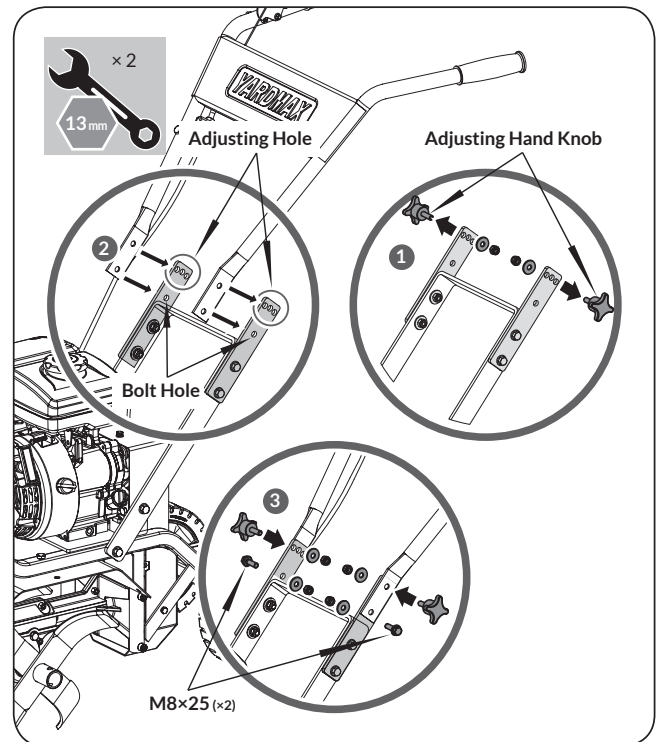
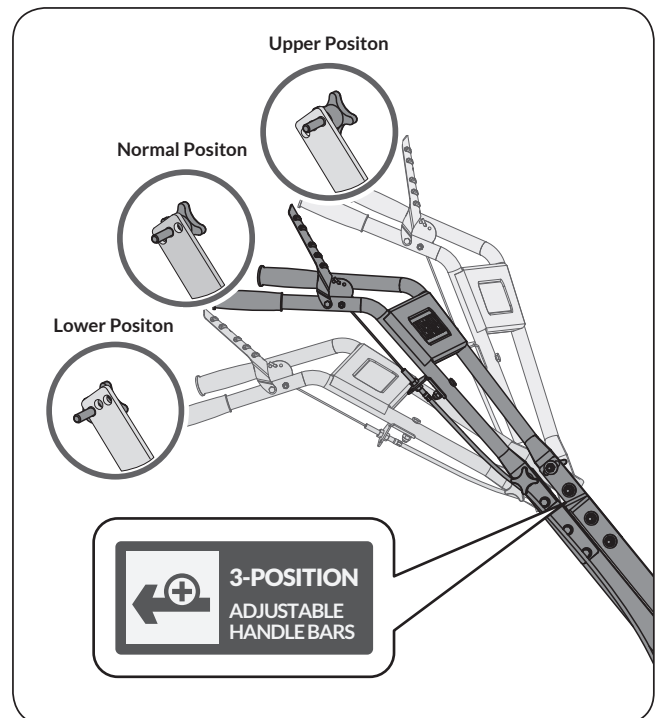

Figure 5a
Figure 5b
1. Remove two adjusting hand knobs, flat washers and nuts from the handlebar adjusting plates. (See **Figure 5a, Illustration 1**)
2. Align the holes in the upper handlebar with the holes in the adjusting plates. (See **Figure 5a, Illustration 2**)
3. Insert M8×25 bolts in the lower holes, screw big washer and M8 nuts. Insert adjusting hand knobs into the one of three upper holes, screw big washer and M8 nuts. Tighten all the four M8 nuts. (See **Figure 5a, Illustration 3**)
» The upper adjusting hand knobs can be used in one of three hole positions for handlebar height adjustment. (See **Figure 5a, Illustration 2 & Figure 5b**)